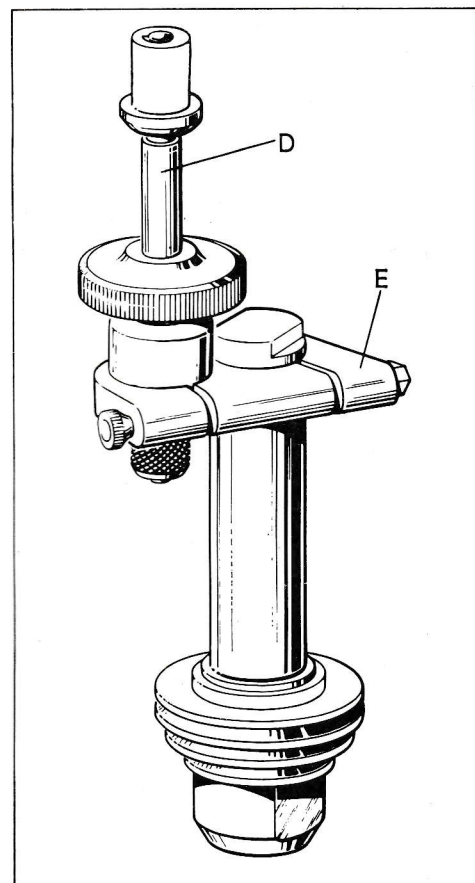

FIG. 4
The elements of this assembly, shown in Fig. 4, comprise the feed screw spindle (D), the yoke (E) and the cutter spindle. The feed spindle and yoke are left in position in the cutter frame with the yoke clamped to a transit post fitted in place of the cutter spindle which is packed separately.